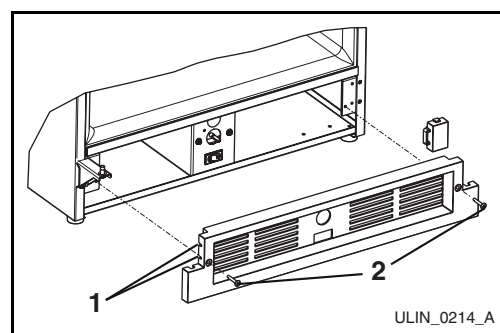

Figure 24
15. Make sure grille cap is behind grille in slots provided in grille (**Figure 24, 1**) before attaching grille to unit, and secure but do not overtighten both grille screws (**Figure 24, 2**).